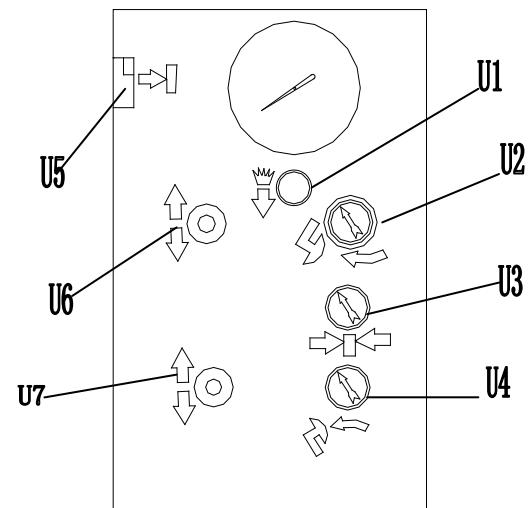

Fig 6
Operation of the pneumatic control box (U) is shown as Fig 6: